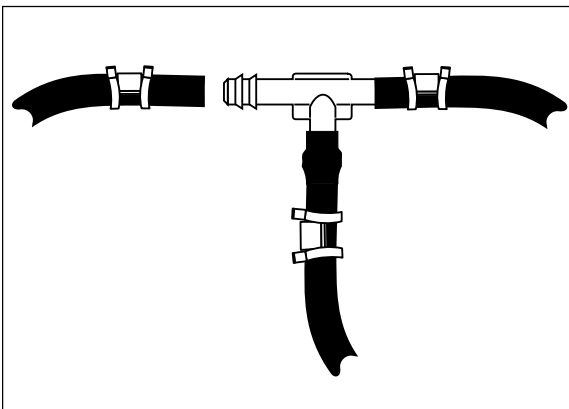

Figure 3
- d. Push the air line over one side of tee until all the barbs are covered. Repeat procedure for other leg of tee (Figure 3).
- e. With pliers slide the air line clamp forward until it fully covers the barbed section. Repeat for other leg of tee (Figure 3).
Stability translates into safety and should be the priority, meaning the driver may need to sacrifice a perfectly level and comfortable ride. Stability issues include roll control, bounce, dive during braking and sponginess (fig. 3). Tuning out these problems usually requires an increase in pressure.